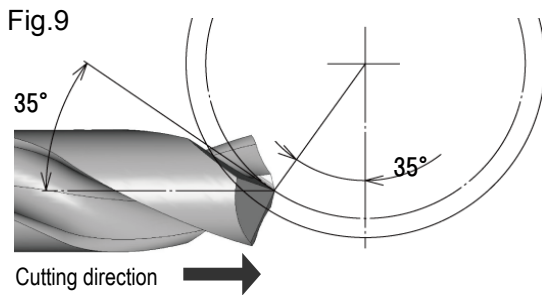

Fig.9
- Set the vertical position of the wheel so that the open angle of the thinning from the drill center will be 35°, as shown in **fig.9**.
- As shown in **fig.9**, grind the thinning face by sliding the table to the direction shown by the arrowhead, pressing the drill against the wheel. Grind slowly adjusting the top end of cut by using a device such as a stopper.